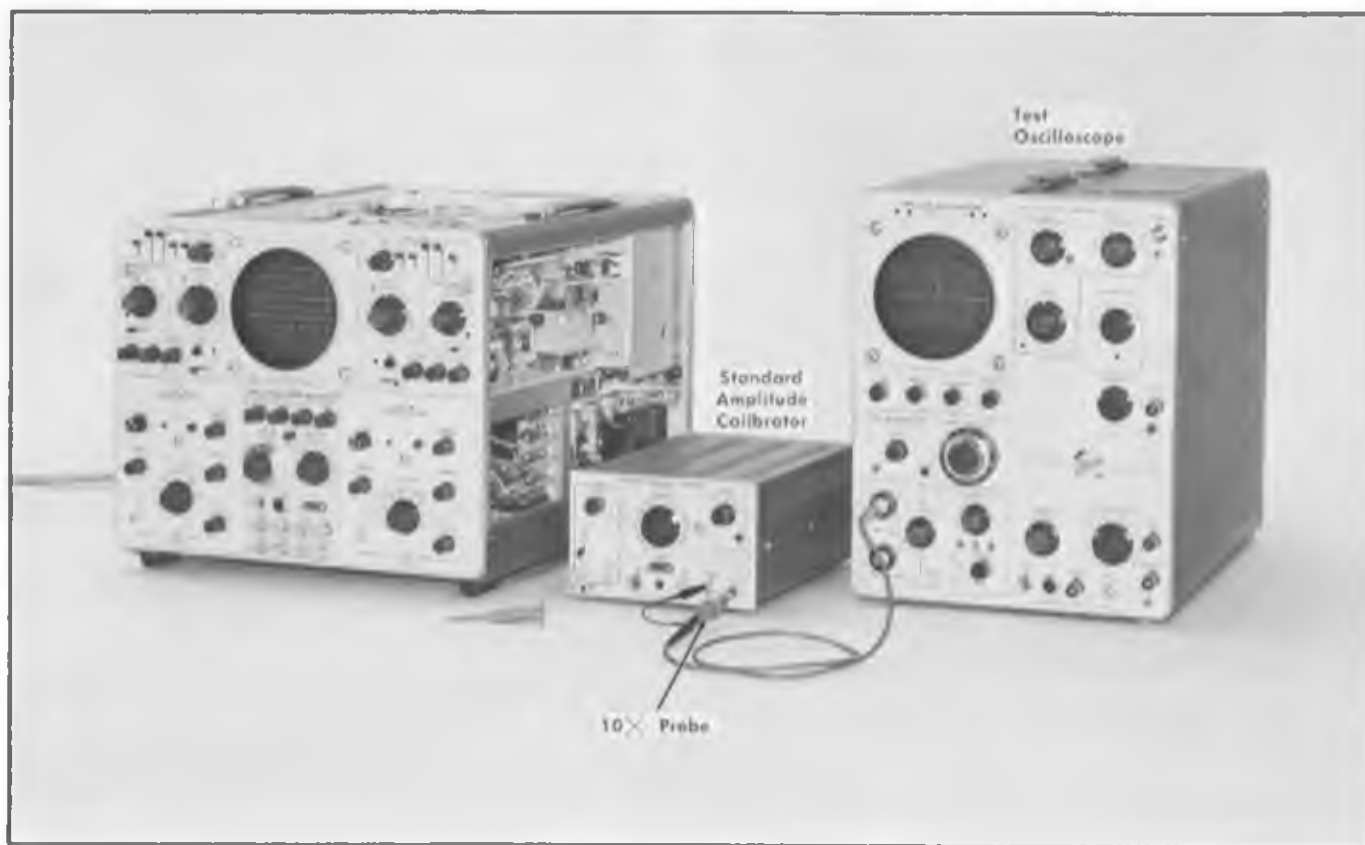

Fig. 6-38. Equipment setup for A and B sawtooth current adjust.
- a. The equipment setup is shown in Fig. 6-38.